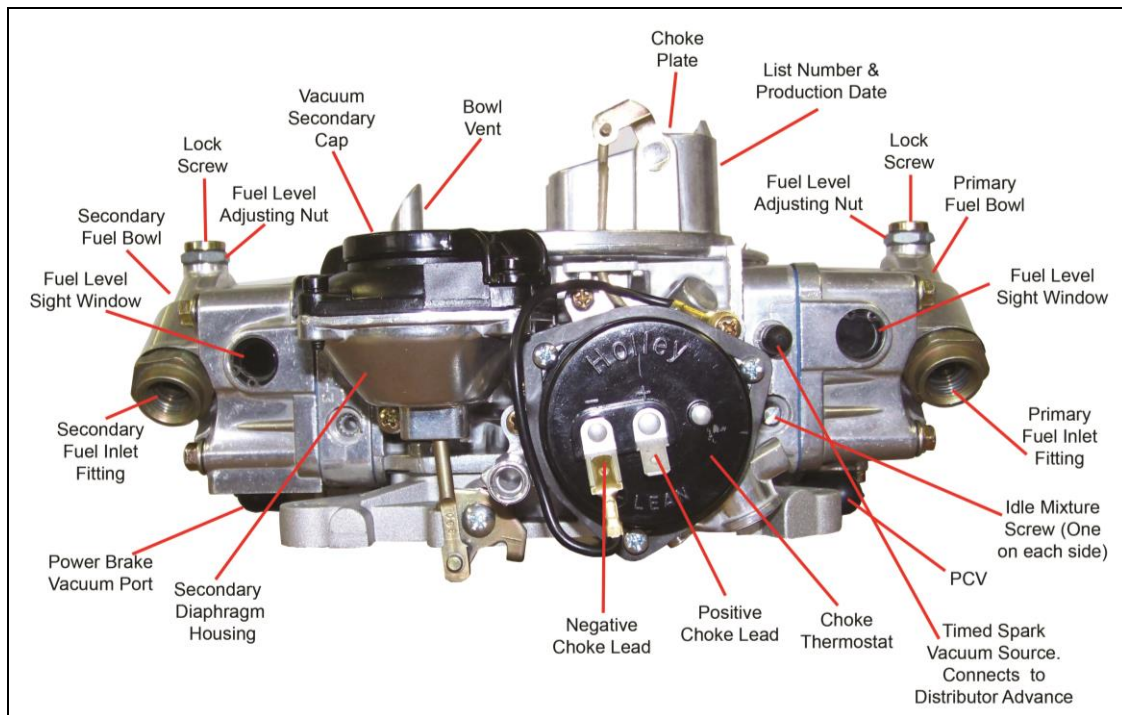

Figure 6
6. Reconnect the appropriate vacuum hoses to the carburetor, noting the correct port from Figure 6 and 8.
8. Connect the power brake hose to the port as shown in Figures 6 or 8.